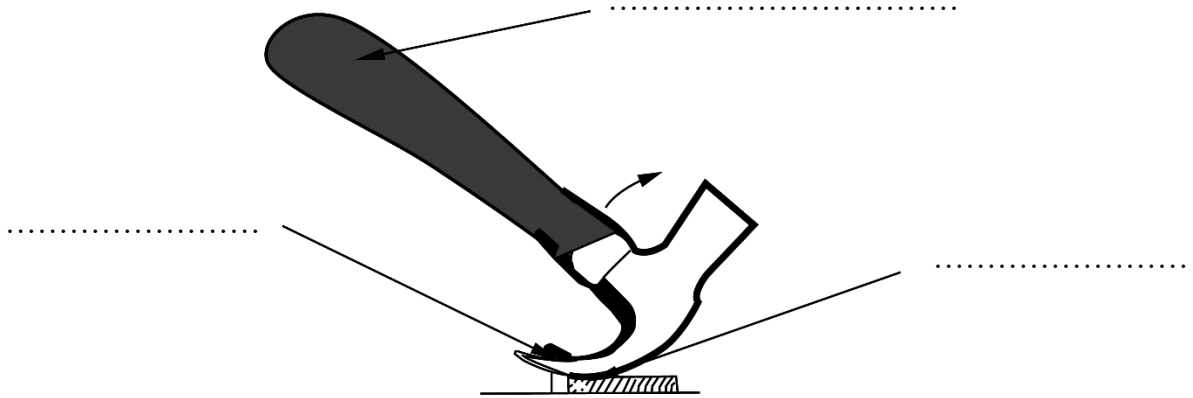

Fig. 1
- 4 Figure 1 below shows a drawing of a hammer being used to pull out a nail.